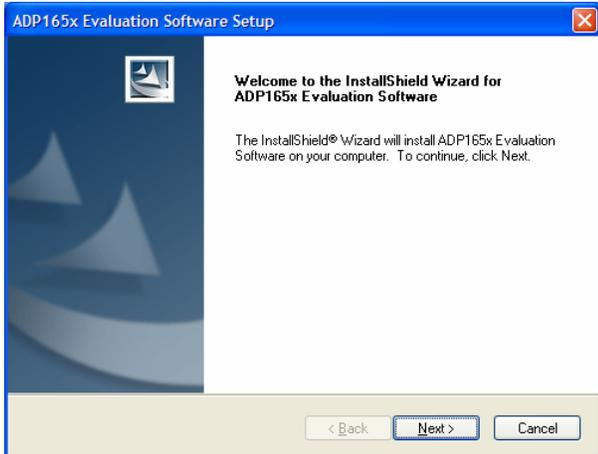

Figure 2. ADP165x Evaluation Software Setup
1. Insert the setup CD into the CD-ROM and run the file **ADP1653 Setup 0\_5.exe**. When the dialog box shown in Figure 2 appears, click **Next>** to continue.